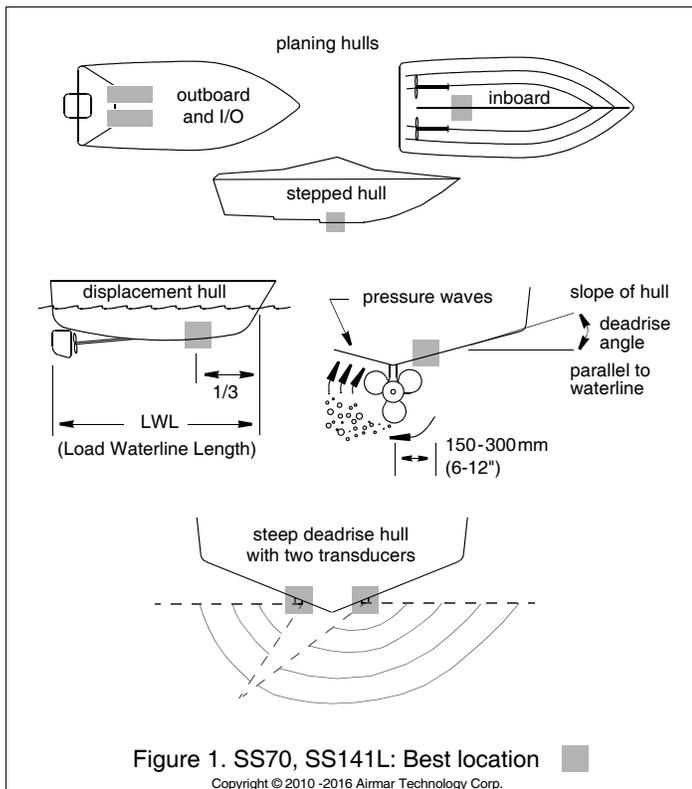

Figure 1. SS70, SS141L: Best location
- **Pair of SS70, SS141L**—Mount the transducers across from one another on opposite sides of the centerline (keel) (see Figure 1).
Boat Types (see Figure 1)